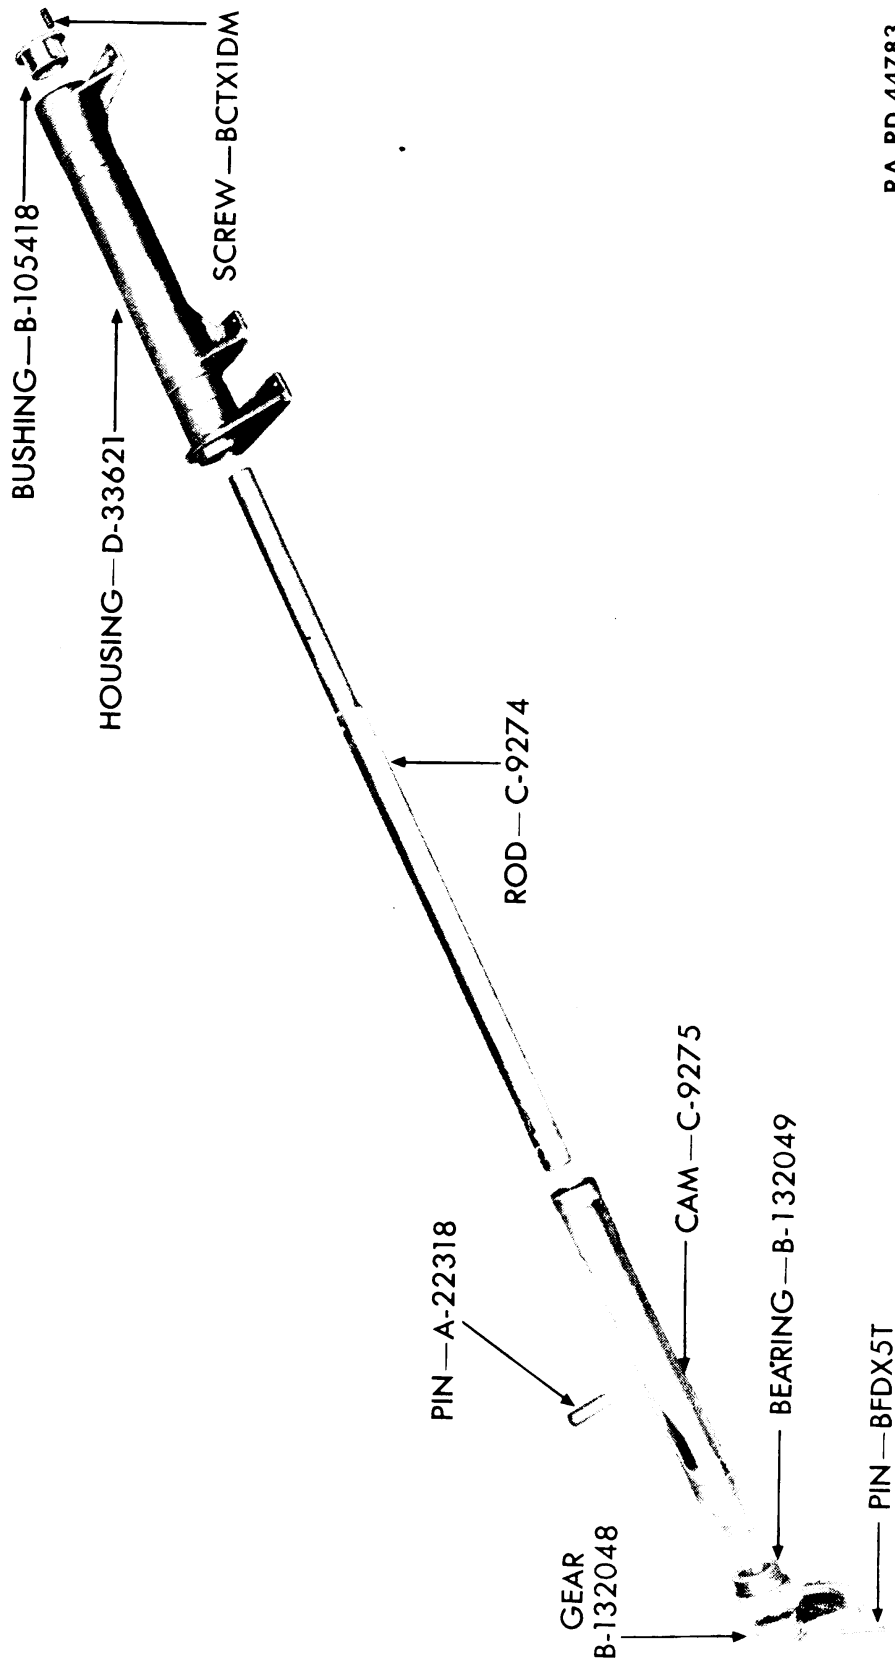

Figure 142—Variable Recoil Mechanism—Exploded View
a. Tap the variable recoil cam housing bushing in place in rear end of cam housing. Secure with four safety set screws (figs. 142 and 109).
c. Coat the variable recoil cam with **PETROLATUM**. Slide it into place on the cam turning rod so that the variable recoil cam pin can be inserted through the cam and rod. Place more **PETROLATUM** in cam slots. Then push cam and cam turning rod back in the cam housing far enough to install the variable recoil cam bearing. Tighten the cam bearing in the front end of the cam housing (figs. 142, 110, and 111).